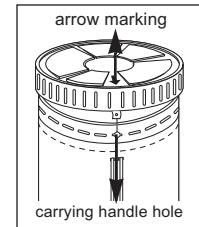

Fig.4
**B) MOUNTING TOP PLATE:** (Fig.4)